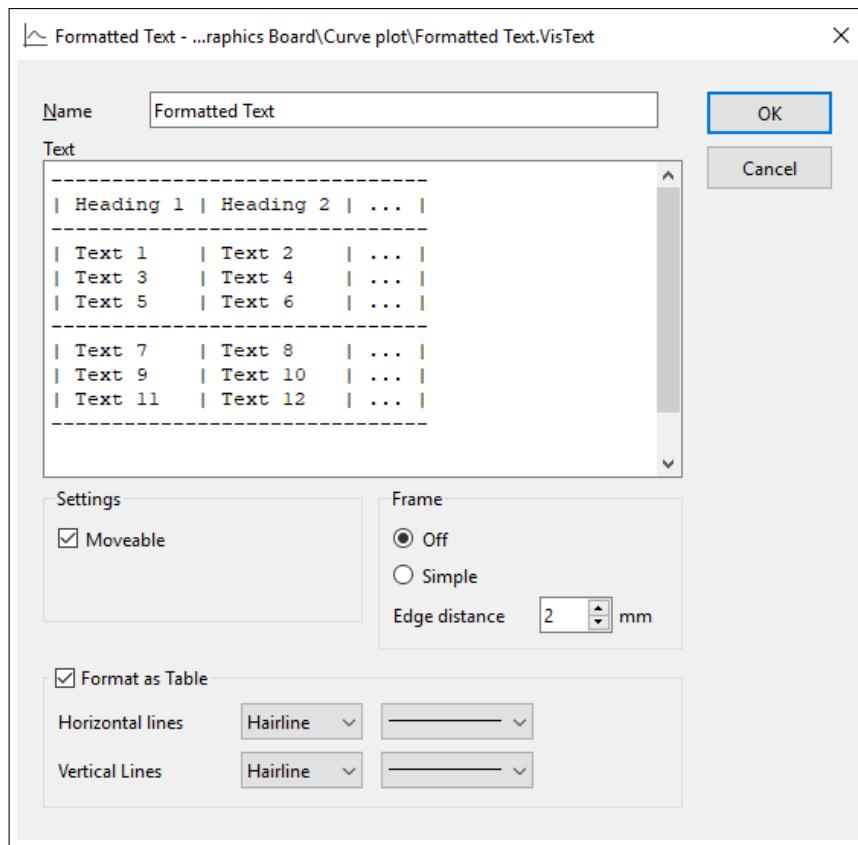

Figure 19.7.21: The text box dialog
The text box (*VisText*) can be used to display text somewhere in the plot. After creating the text box, it can freely be moved across the plot. The edit dialog is shown in Figure 19.7.21.
- **Format as Table:** the inserted text will be formatted as a table, if the *Format as Table* option is activated and the characters “-” and “|” are used in the form as shown in Figure 19.7.21. The horizontal and vertical line types, i.e. the line width and the line style, can then be specified.